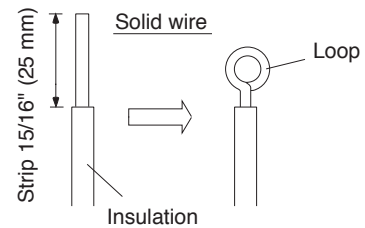

Fig. 27
- (1) Cut the wire end with a cutting pliers, then strip the insulation to expose the solid wire about  $15/16$ " (25 mm). (Fig. 27)
- (2) Using a screwdriver, remove the terminal screw(s) on the terminal plate.
- (3) Using the pliers, bend the solid wire to form a loop suitable for the terminal screw.
- (4) Shape the loop wire properly, place it on the terminal plate and fix it securely with the removed terminal screw using a screwdriver.